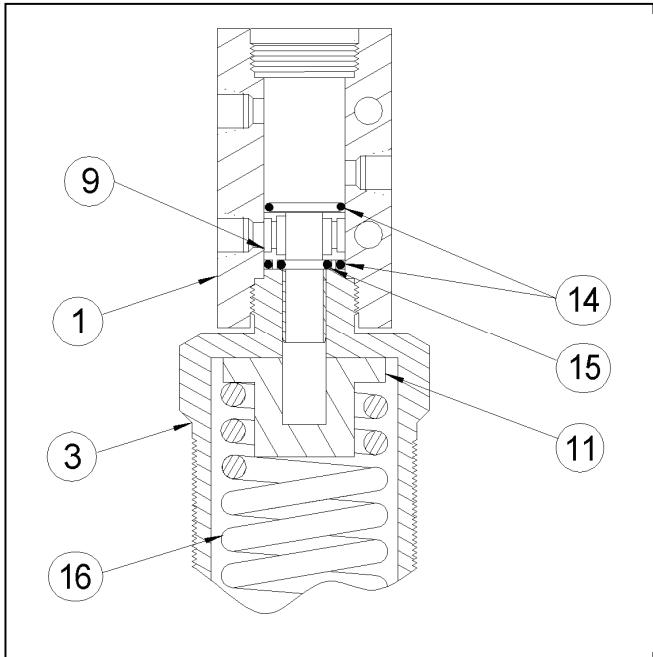

Figure 3
13. Turn the valve body (item 1) so that the open end of the bore is up. Install new inner o-rings (item 15), without lube, in the center sleeve (item 8). Place new lubricated o-ring (item 14) in the bore of the body (item 1) on top of the end sleeve (item 9). (See Figure 3)